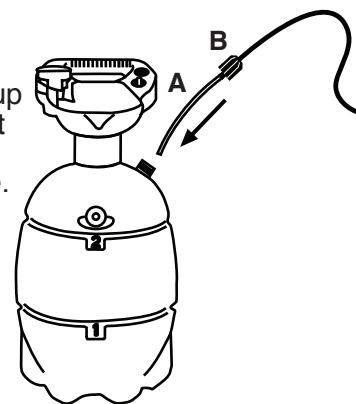

FIG. 1
1. Insert pickup tube (A) into the threaded connection nut (B). Then, insert end of pickup tube into the threaded hose connector on shoulder of tank and turn the threaded nut until tight. (FIG. 1)